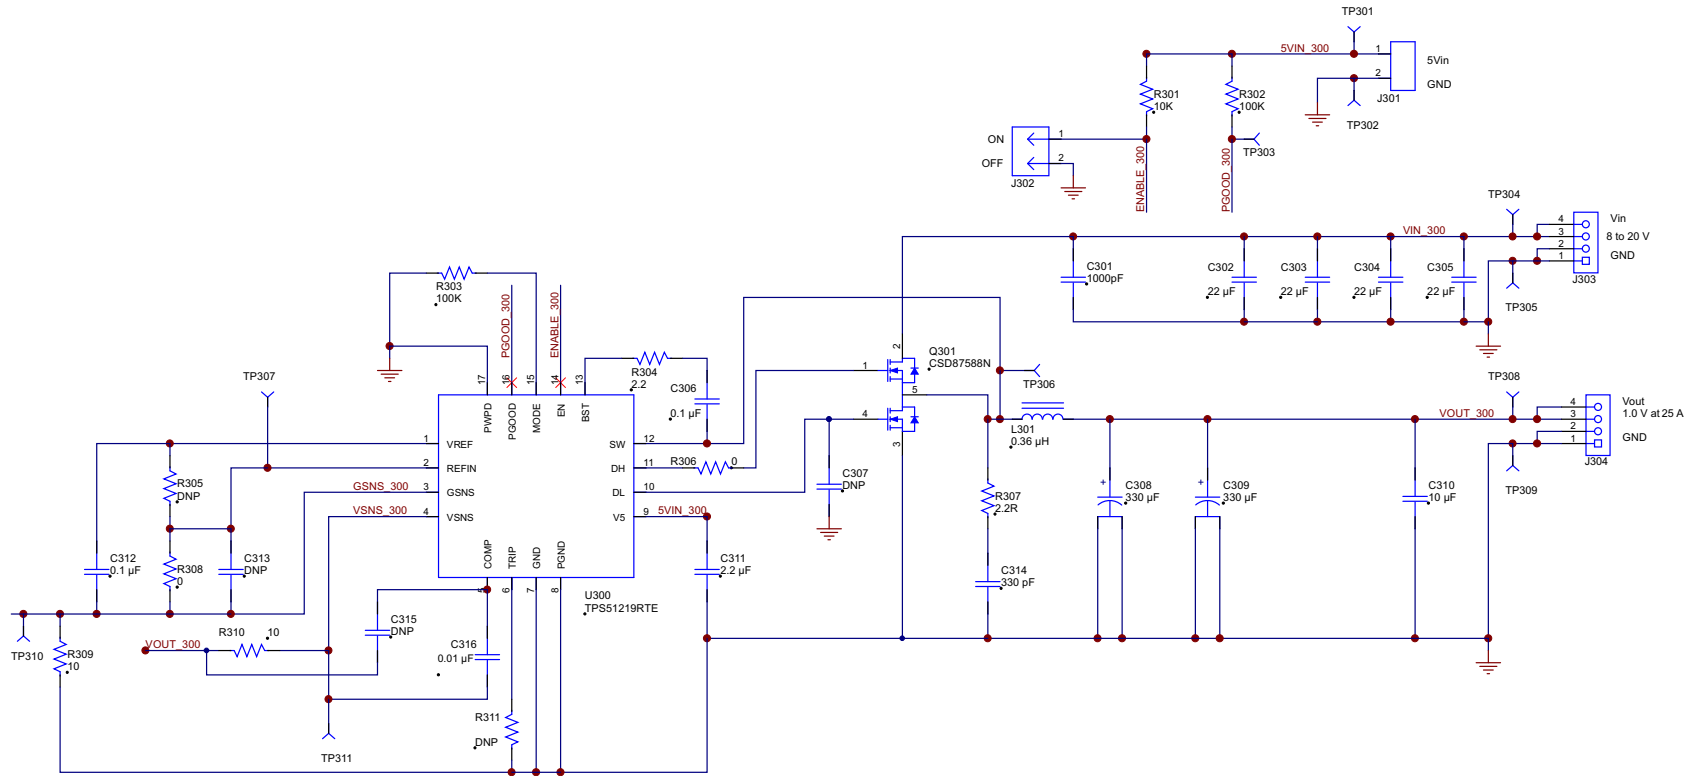

Figure 1. CSD87588NEVM-603 Schematic
(1) The output voltage can be adjusted by changing the values of R305 and R308 in Figure 1. For details, refer to the TPS51219 data sheet, SLUSAG1. The TPS51219 device supports output voltage from 0.5 to 2 V.
The EVM components list according to the schematic shown in Figure 1.